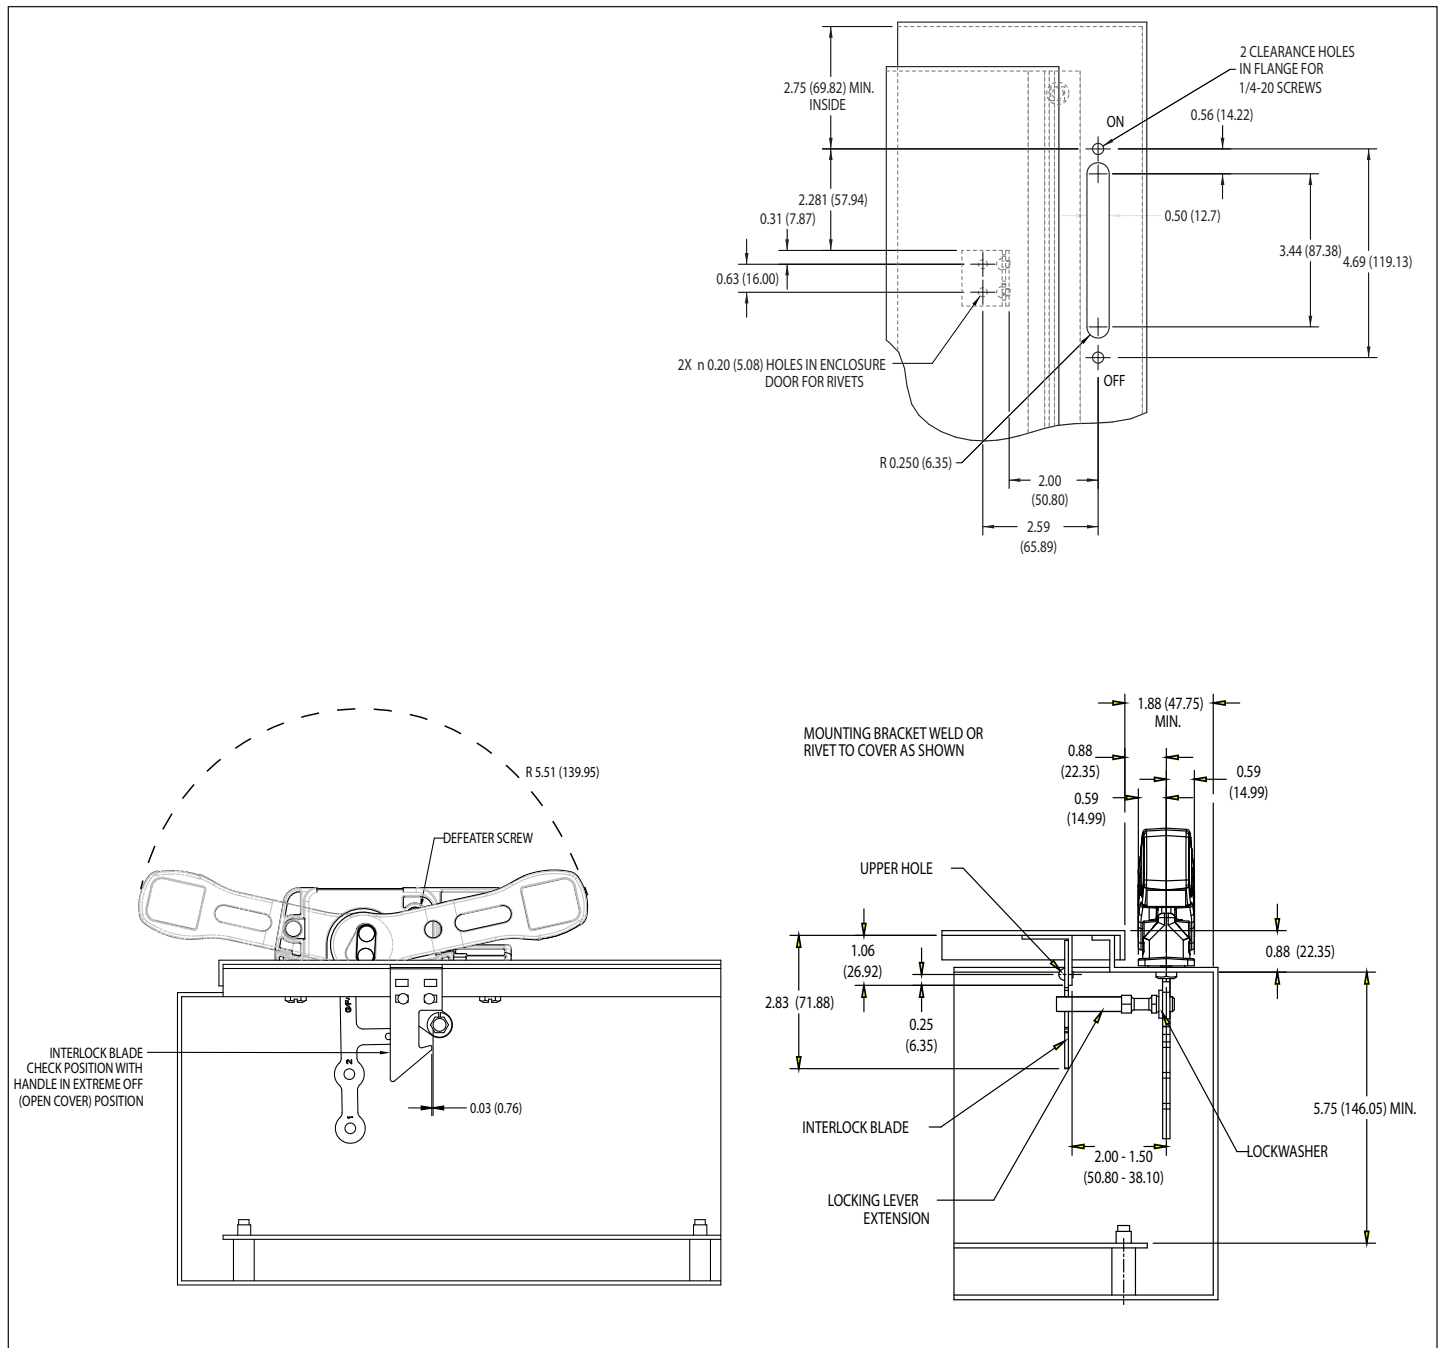

Figure 7. Flange Drilling Plan for Handle and Interlock Blade Mounting Dimensions.
2. Install the handle to the enclosure by removing the two screws and lock washers from the outer handle mechanism. Place the outer handle mechanism with attached gasket over the enclosure cut-out (for cut-out dimensions, refer to Figure 7). Insert the top ¼-20 outer handle mechanism mounting screw and lock washer through the enclosure and thread into the outer handle mechanism for a few turns, but not all the way.
11. Install the appropriate door hardware (supplied) (see Figure 7).